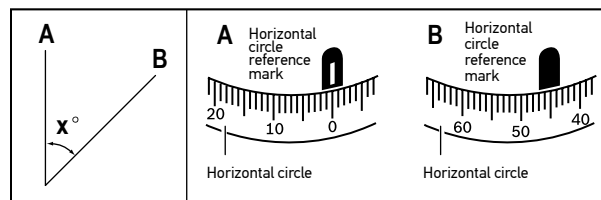

Figure 6
- Focus the device on the rod A. Rotate the horizontal circle (2) until the "0" mark is aligned with the reference mark (3) (fig. 6).
- Focus the device on the rod B. Record the angle measurement of the reference mark (3) of the horizontal circle (Fig. 6).
The angle value in Figure 6 is 45°.